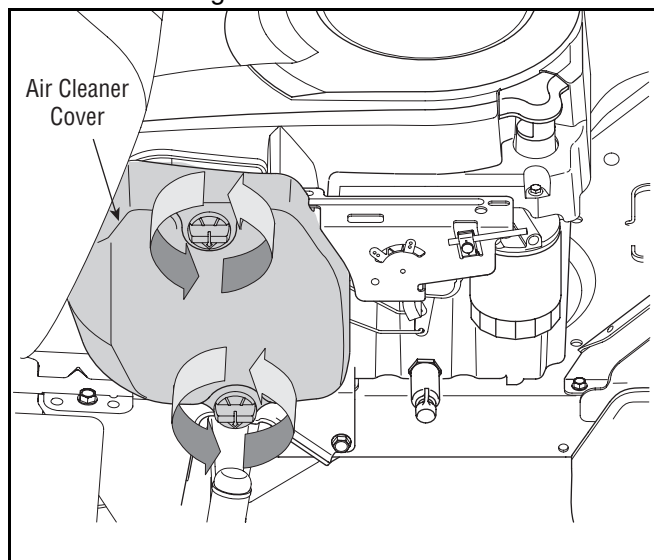

Figure 16
1. Loosen the air cleaner cover knob and remove the cover. See Figure 16.